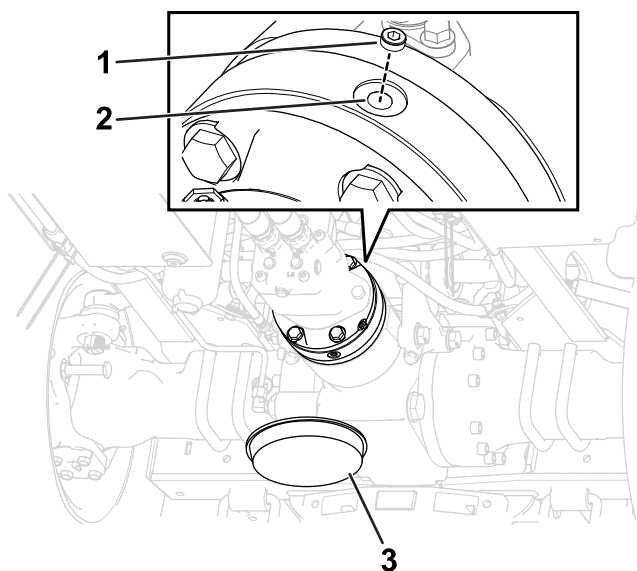

Figure 106
5. Remove the fill plug at the top of the brake housing (Figure 106).
7. Install the fill plug into the fill port (Figure 106).